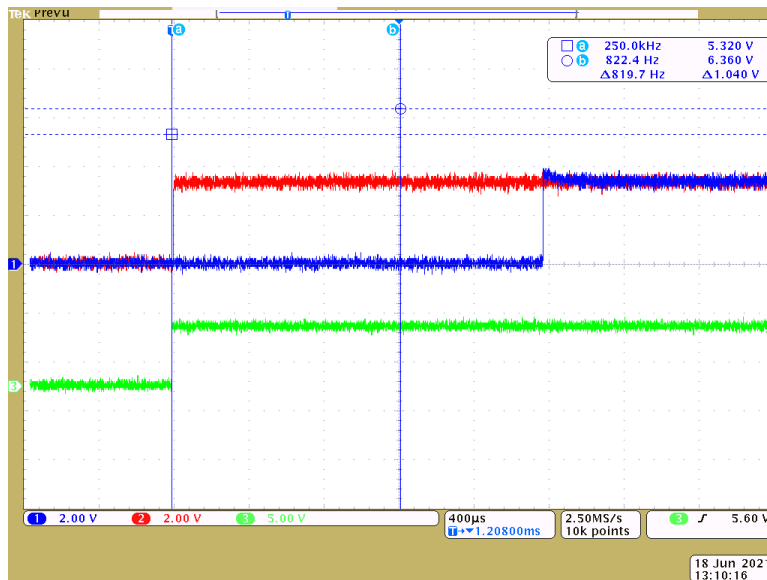

Figure 4-21. Expected Output Signal
- The output at the oscilloscope should look like the Figure 4-21 where green waveform is the pulse to the ACT pin (TP6), red waveform is Enable 2 signal and blue waveform is the Enable 1 Signal.